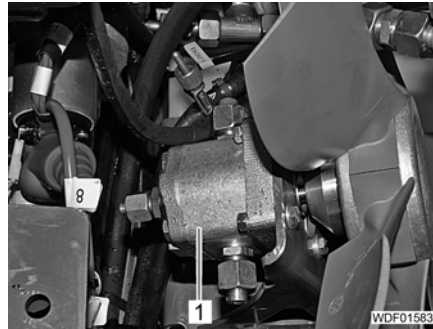

Fig. 177 Hydraulic lines on the fan motor
- Unscrew 3 hydraulic lines on the fan motor (Fig. 177,1) and seal (Fig. 177).